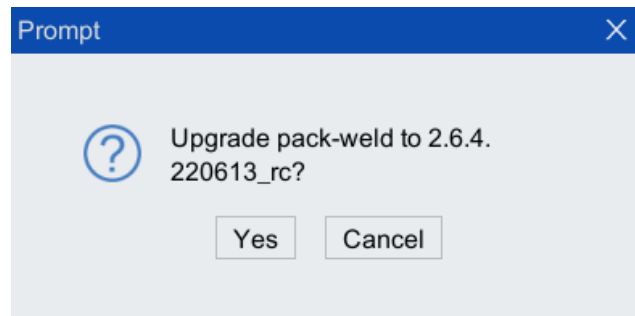

Figure 4-5 Dialog box
Step7. A dialog box shown in Figure 4-5 will pop up to prompt whether to upgrade. After checking, click "Yes" button.